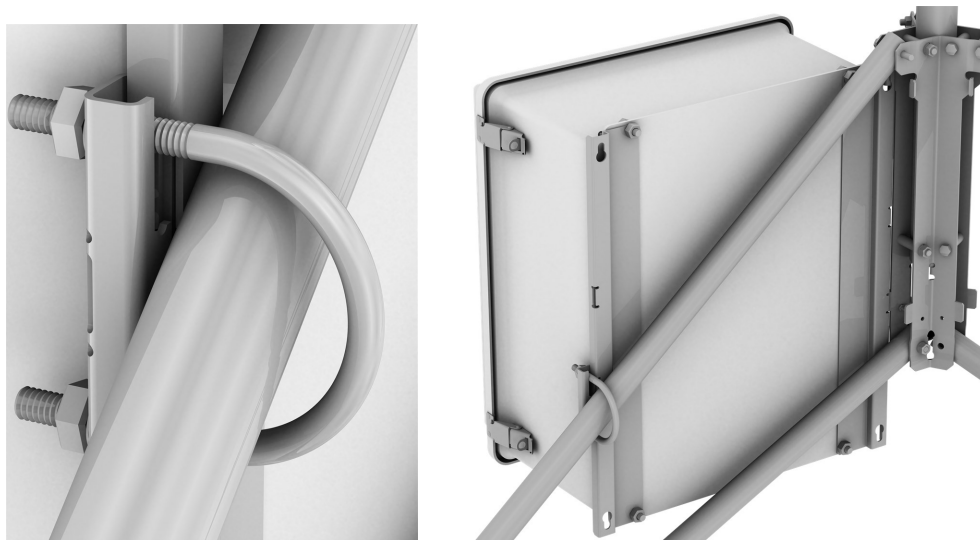

FIGURE 6-16. U-bolt connection
3. Slide the U-bolt bracket onto the outer –LM mounting bracket (see FIGURE 6-16 (p. 21)). Use the furnished 2.5-inch U-bolt to secure the –LM mounting bracket to a tripod. The CM106K requires a user-supplied 5/16-18 x 1.5 inch U-bolt due to the smaller tripod leg size.